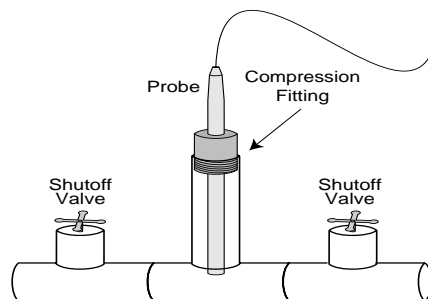

Fig.2.4 • In-Line Location Using Tee Fitting
- In-Line Location Using Tee-Fittings (Figure 2.4).
The probe is placed into a tee-fitting, as shown in Figure 2.4. You will need to provide the tee-fitting for this installation. The diameter of the in-line portion of the tee should be 1/2 inch (3/4" for conductivity probe) regardless of whether you are using laboratory or standard grade probes as they are supplied from Aquadyne. Aquadyne offers two compression fittings for installation of the probes. Flow rates across the pH and ORP probes should be limited to < 10 GPM.